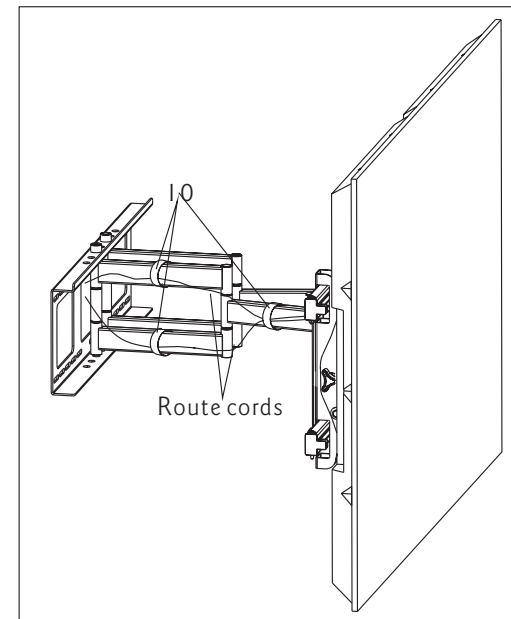

Fig 4a
Remove the Cord cincture(10) from box. Use Cord cincture bind Route cords to Cantilever Arm in needful location. As shown in Fig. 4a